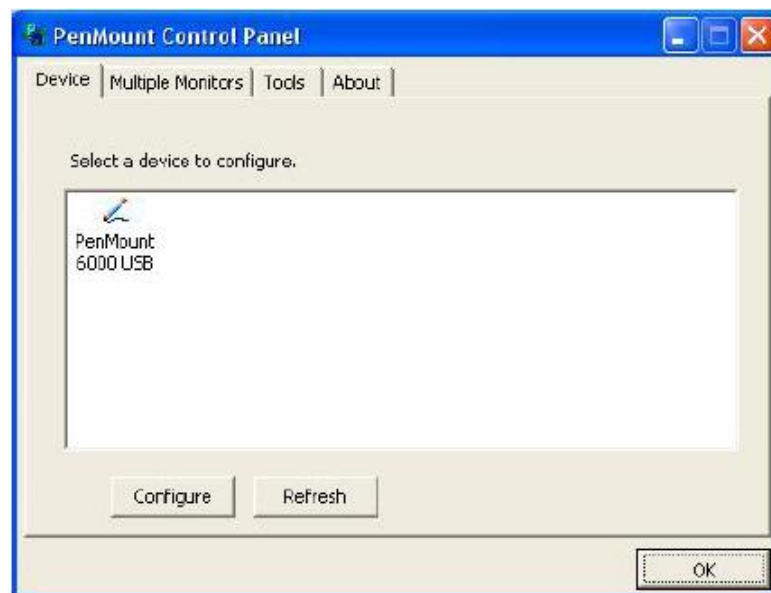

Figure 7-9: Configuration Screen
Step 6: The configuration screen in **Figure 7-9** appears.
Step 7: Double click the PenMount 6000 icon as shown in **Figure 7-9**.